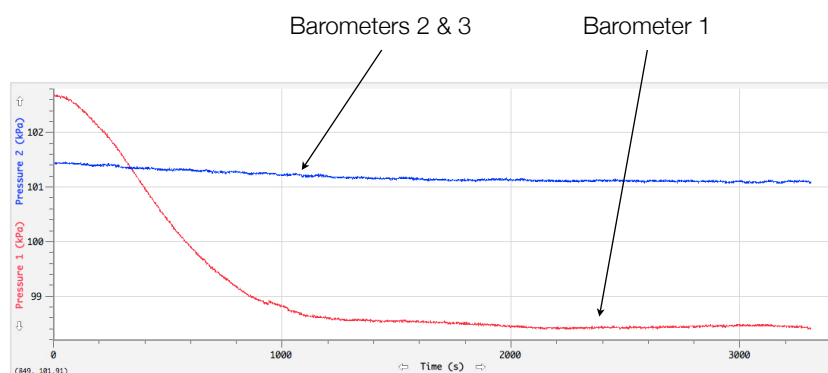

Figure 4
15. On the graph, Barometer 1 should show a rapid decline in pressure as it acclimates to the colder temperature around it.(figure 4)